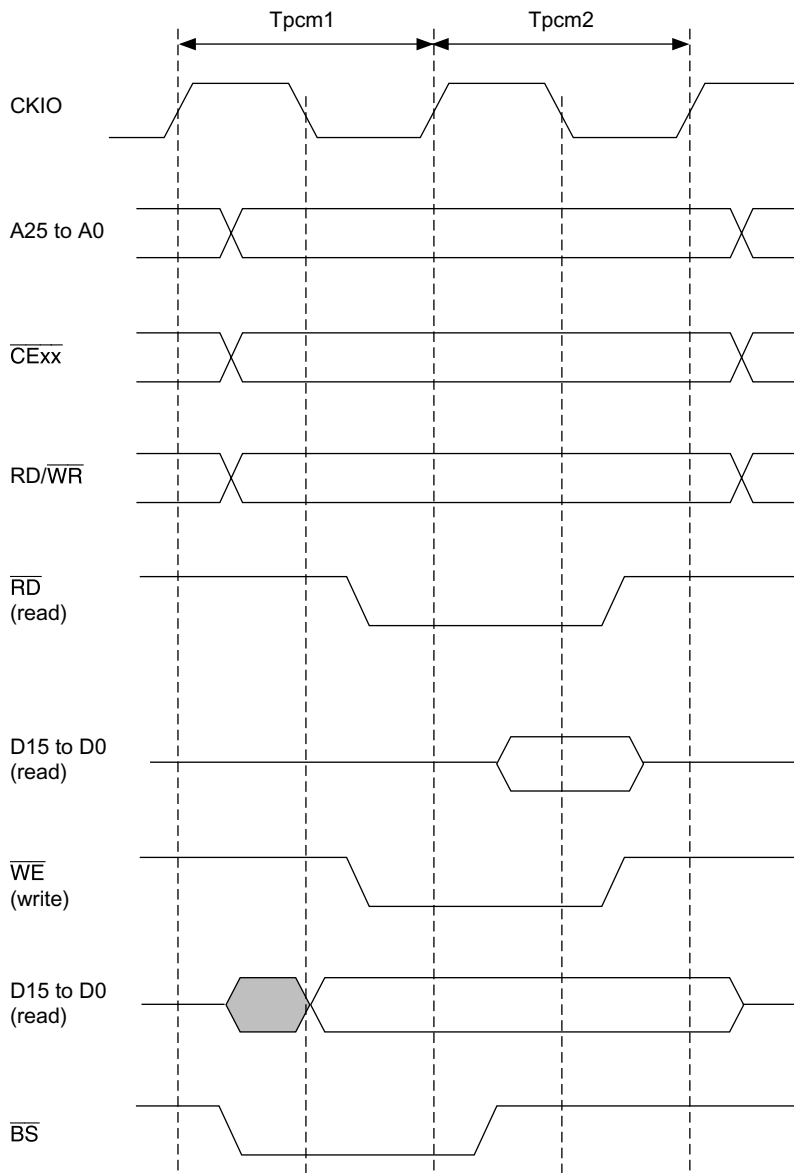

**Figure 12.25 Basic Timing for PCMCIA Memory Card Interface**
**Memory Card Interface Basic Timing:** Figure 12.25 shows the basic timing for the PCMCIA IC memory card interface. When physical space areas 5 and 6 are designated as PCMCIA interface areas, bus accesses are automatically performed as IC memory card interface accesses.